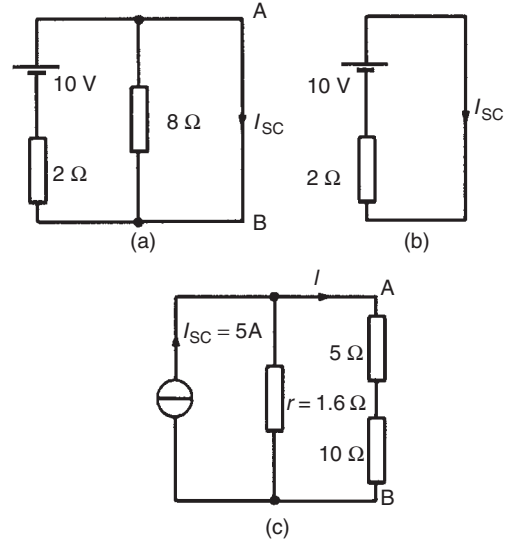

Figure 13.55
- (i) The branch containing the  $10\ \Omega$  resistance is short-circuited as shown in Fig. 13.55(a)
- (ii) Fig. 13.55(b) is equivalent to Fig. 13.55(a).
- (iii) If the  $10\ \text{V}$  source of e.m.f. is removed from Fig. 13.55(a) the resistance 'looking-in' at a break made between A and B is given by:
- (iv) From the Norton equivalent network shown in Fig. 13.55(c) the current in the  $10\ \Omega$  resistance, by current division, is given by: